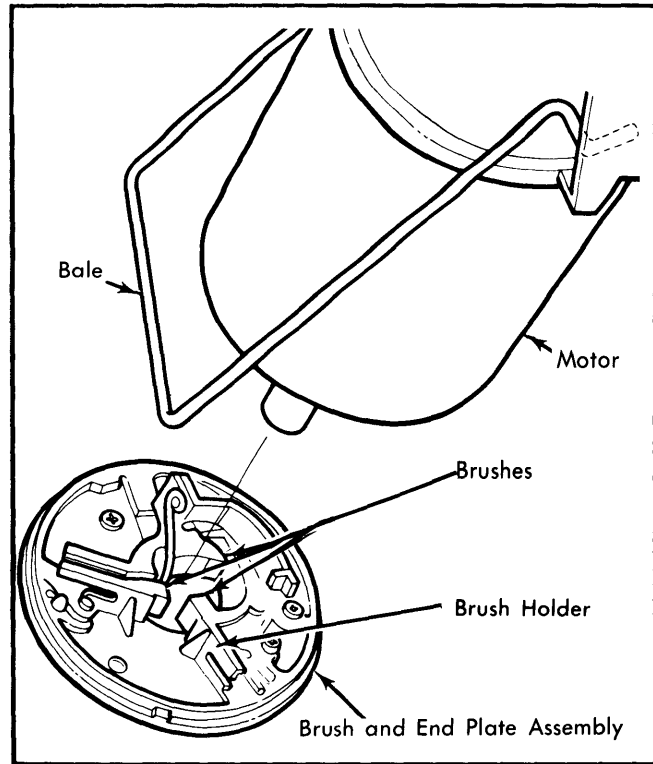

Fig. 13 Motor Brush End Plate Assembly, "E" Models
**"E" Models** – To remove cover and switch assembly, remove four cover attaching screws and replace using the appropriate kit, making sure ground strap is reinstalled under cover screw. To remove brush end plate, observe position of bale retainer, then pry off using a screwdriver. Remove end plate and plug, then replace using the appropriate kit while noting the following: Use a fine wire probe through hub opening to position brushes on commutator. Rotate end plate to position key in notch and assemble plug. Do not overbend bale retainer when installing. See Fig. 13.